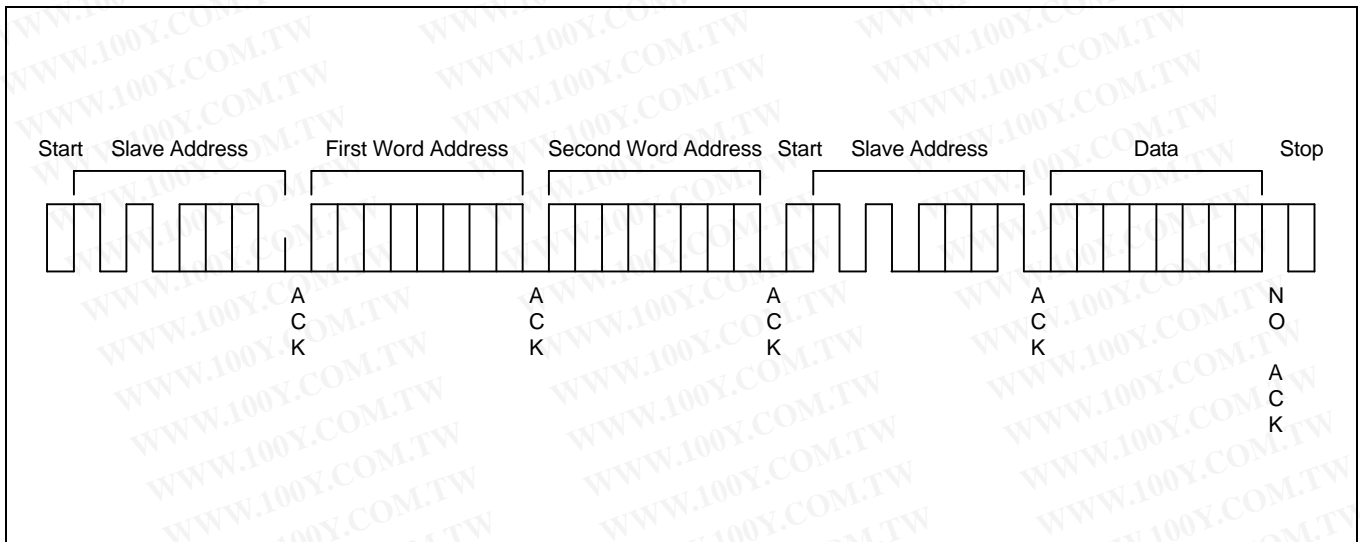

Figure 5-14. Random Address Byte Read Operation
5. The S524AD0XD1/D0XF1 stops transmitting data and reverts to stand-by mode (see Figure 5-14).